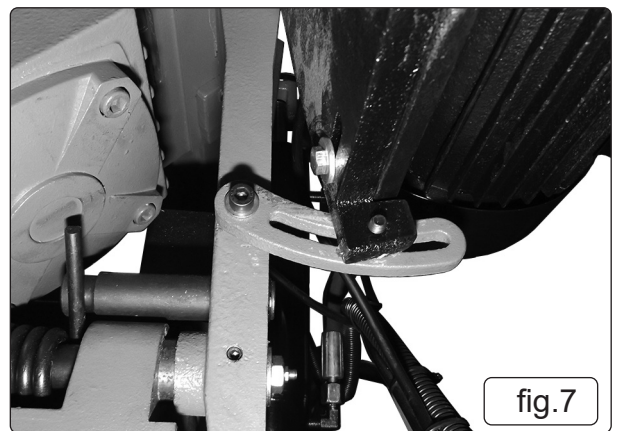

fig.7
- 4.4.3. Tension V-belt by pushing motor mount plate and tightening socket head bolt (fig.7).